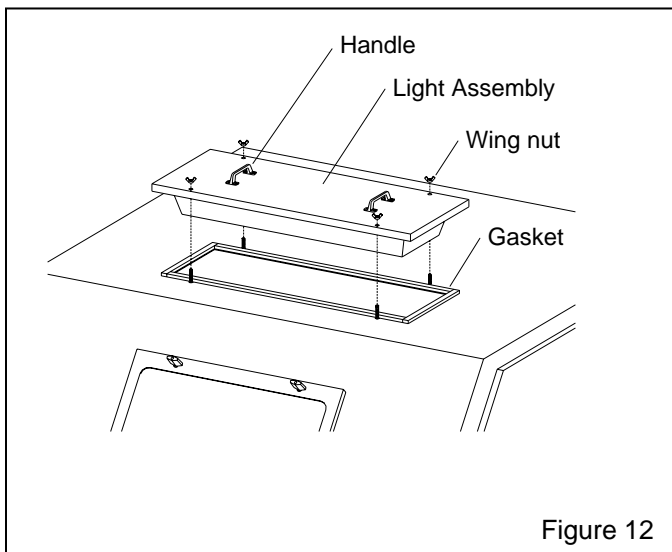

Figure 12
7.6.2.1 Remove the four holding wing nuts, and use the handles to lift the fixture off the cabinet, as shown in Figure 12.
7.6.2.3 Lay a section of strip gasket next to the opening, and cut to length, allowing 3/4" overlap on each end. Peel a short section of adhesive backing and adhere the strip gasket to the top edge of the light opening, as shown in Figure 12. Press the gasket tightly to bond. Repeat the process for each side, compressing the ends to seal.